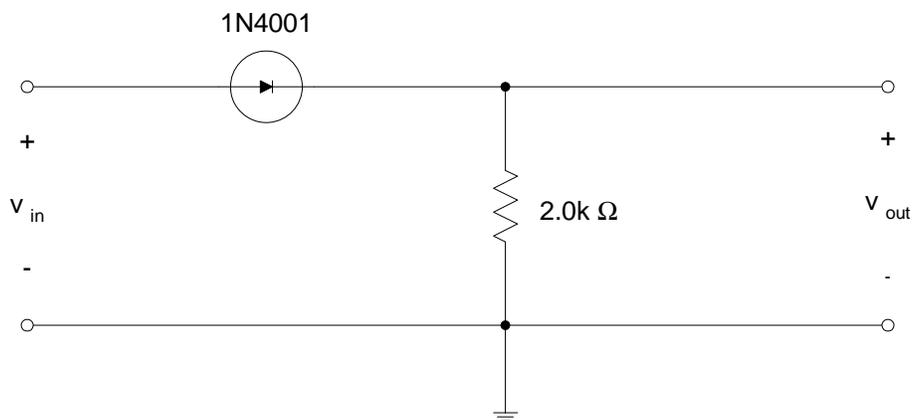

Figure 2: Circuit for Experiment 2.
2. Construct the circuit of Figure 2. Apply a 100 Hz, 6 V peak-peak signal from the signal generator to the input,  $v_{in}$ . Measure the peak value of the output voltage  $v_{out}$  and the fraction of each cycle that  $v_{out}$  is zero.